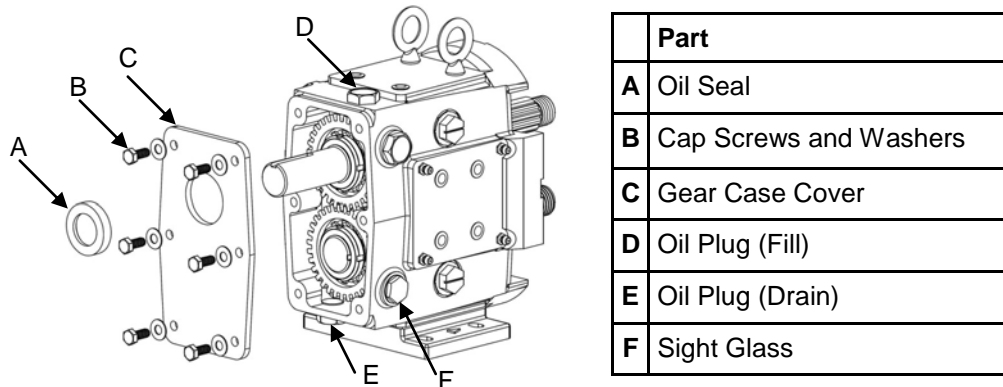

Figure 36: Gear Case Disassembly (Gear Case Cover)
1) Remove the pump head as described on page 16 (Pump Disassembly). Remove the bottom oil plug and drain the oil from the gear case (remove oil fill plug for faster drain). Remove the six hex head cap screws and washers from the gear case cover and slide the cover off the drive shaft (Figure 36). If the cover is stuck, use a soft mallet to tap around the edges until it breaks free. Using a straight edge remove the liquid gasket used to seal the cover to the gear case. Remove and discard the oil seal from the cover using an arbor press.